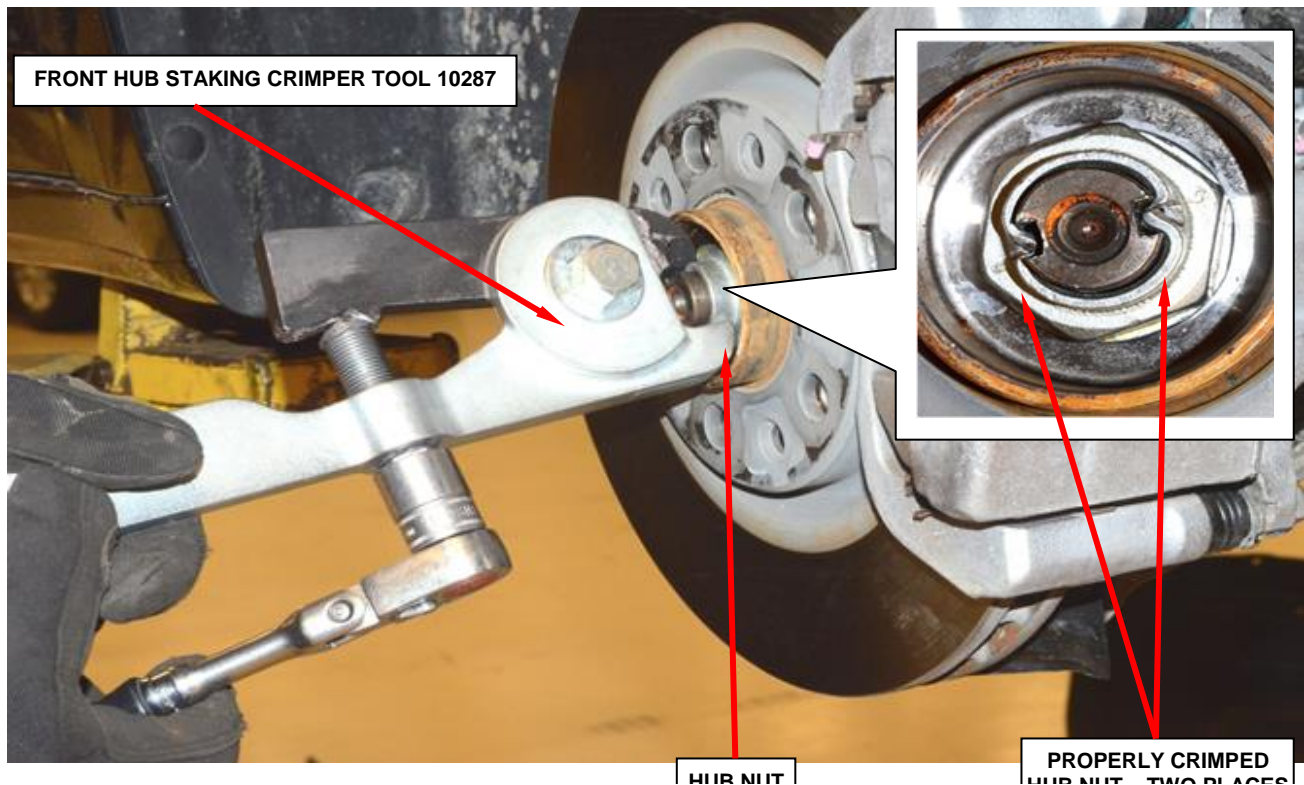

Figure 6 - Crimp Halfshaft Hub Nut with Special Tool 10287
18. Using the Tool, Front Hub Staking 10287, align the leading cutting edge of Tool, Front Hub Staking 10287 with the top left side channel on axle as shown. Tighten fastener on Tool, Front Hub Staking 10287 with hand tools until the threads bottom out completely (Figure 6).
NOTE: The hub nut must be staked so that it looks similar to Figure 6. Both edges must be split and bent into the shape shown. The staking must be opposite of the direction to tighten the nut.